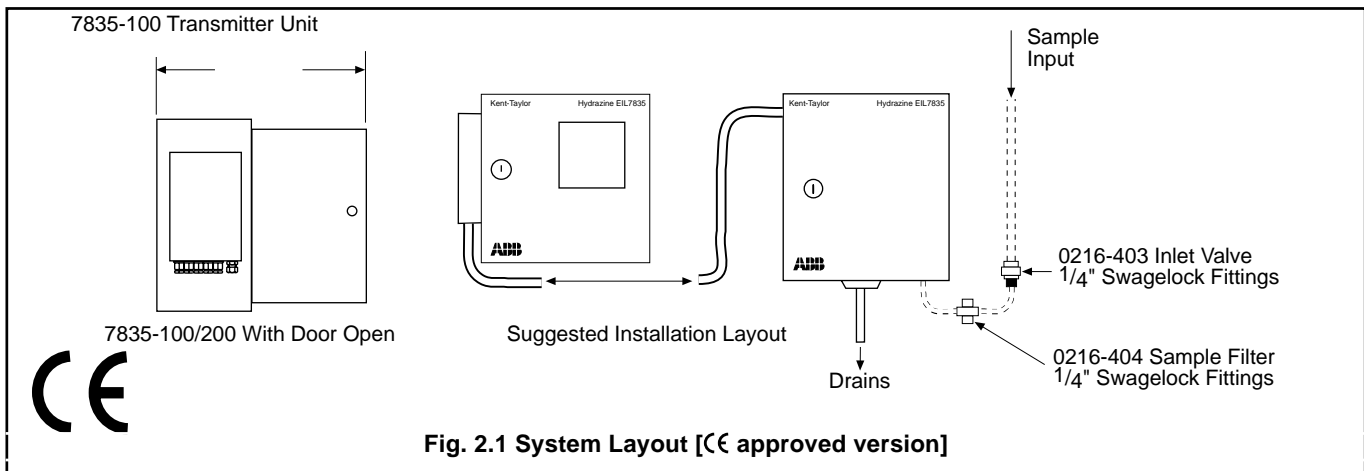

Fig. 2.1 System Layout [CE approved version]
2.1 Location and Fixing of Units (Fig. 2.1 and 2.2)
The holes for wall mounting both units are suitable for 8 mm diameter fasteners and are located as shown in Fig. 2.1. Sufficient space must be left in front of the cases for access, and to the side for making cable connections to the transmitters.
The Cable Gland for connections within the sensor unit is situated at the top right hand side but may be transferred to the opposite side if this is more convenient – see Fig. 2.1.